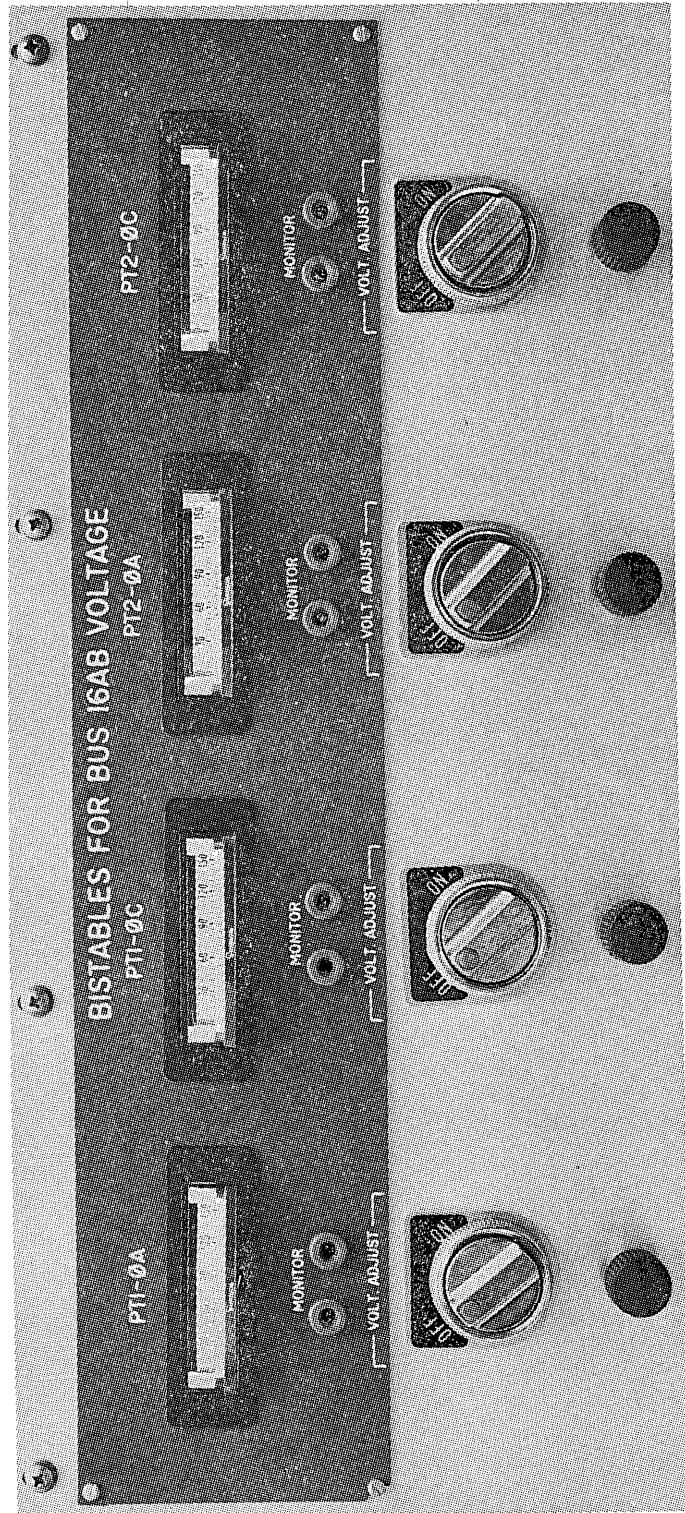

Figure 5. Bistable Panel
The bistable panel (B), as shown in more detail in figure 5, contains panel meters for monitoring potential transformer input voltages, and test jacks, calibration switches, and potentiometers which provide the capability for calibrating each bistable channel and manually testing the bistable circuits. In addition, step down transformers are provided and utilized to isolate the input potential transformer voltages from the balance of the system. The potential transformer inputs are fused for protection.